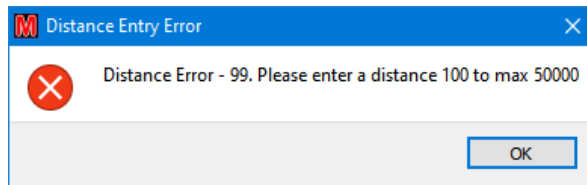

Figure 131 – Default distances for filters
The defaults for the distance filters are established using the “Tools/Options” panel, “Cluster/Bandmap” tab. under menu as shown in Figure 131 (1)¹²⁸. The distance must be in the range 100 to 50000 (!) otherwise an error message is produced Figure 131 (2).